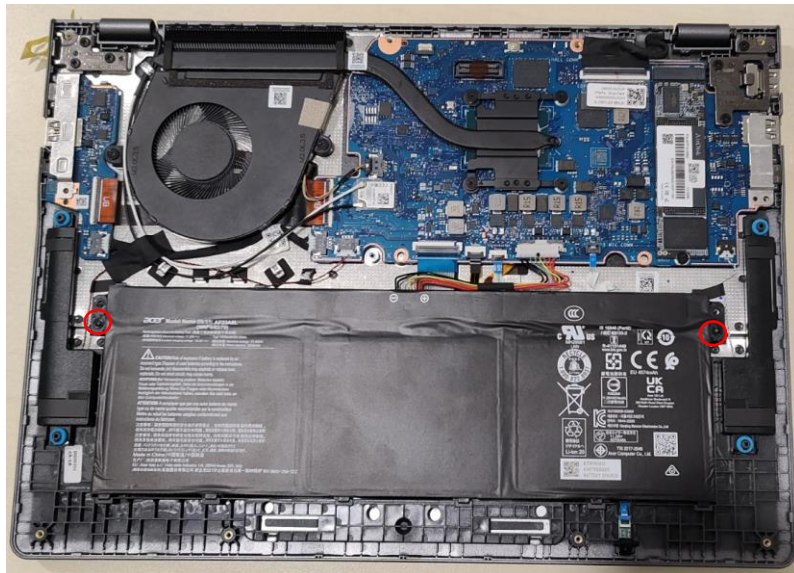

Figure 3-87. Replacing the Battery Pack
2. Install two (2) screws to secure the Battery in place (Figure 3-87).